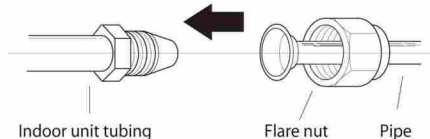

Fig. 5.7
1. Align the center of the two pipes that you will connect. See Fig. 5.7 .